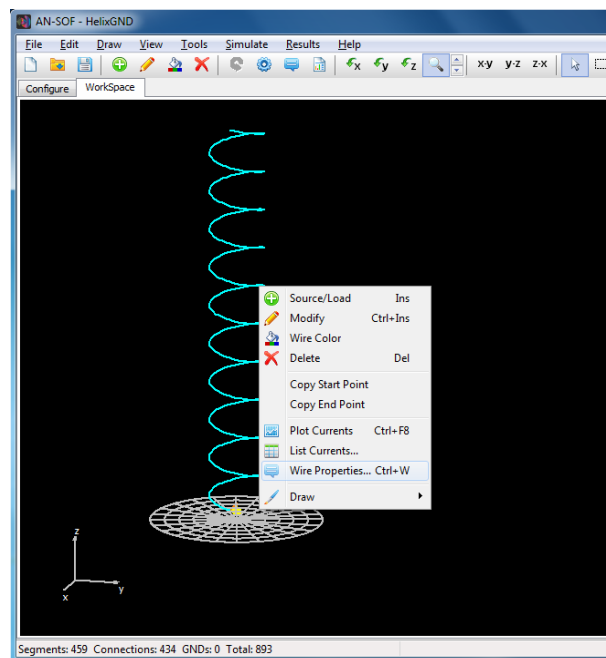

Fig. 6.6: Wire Properties... command in the pop-up menu.
Clicking the right mouse button on a wire will display a pop-up menu, Fig. 6.6, where the Wire Properties... command can be selected.
1. Clicking the right mouse button on wire #1 will display a pop-up menu, Fig. 6.6.